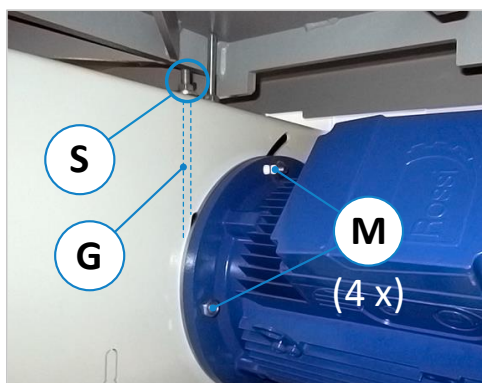

Figure 91: Tensioning the drive belts
- Loosen and remove the bandsaw blade (B). For details see procedure in section ⇒ 11.3.
- Loosen the four motor screws (M) and the tensioning nut (S) on the threaded rod (G) so that the drive belts are loosened (see procedure in ⇒ Figure 91).